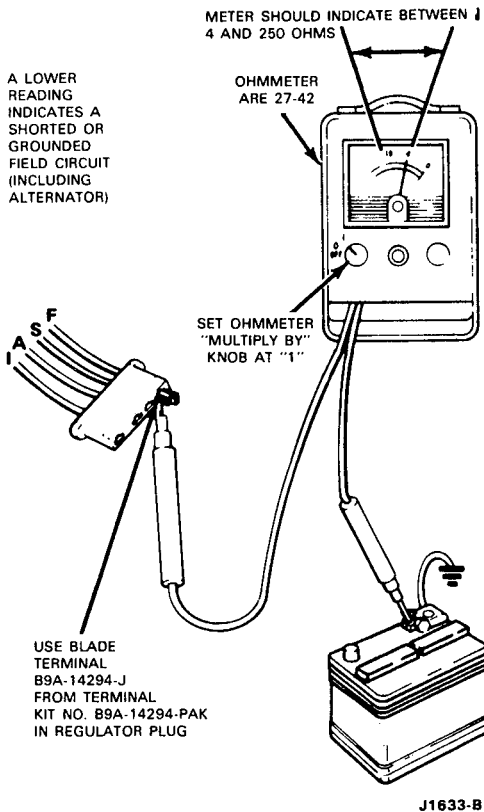

FIG. 11 Field Circuit Test
- The field circuit should be checked with the regulator wiring plug disconnected and an ohmmeter connected from the F terminal of the regulator wiring plug to the battery ground. The ohmmeter should indicate between 4 and 250 ohms (Fig. 11).